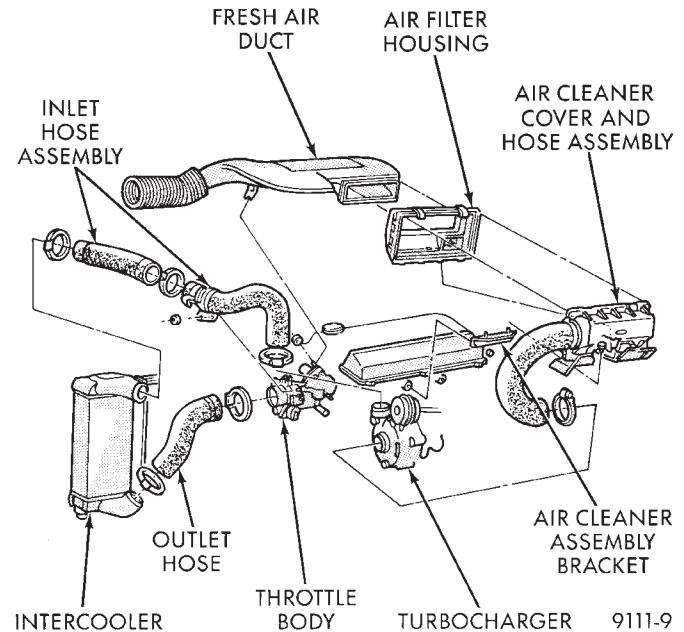

Fig. 1 Air Cleaner and Throttle Body Assembly—Turbo III Engine
- (1) Perform fuel system pressure release procedure **before attempting any repairs.**
- (2) Disconnect negative battery cable. Drain cooling system. Refer to Cooling System, Group 7.
- (3) Remove fresh air duct from air filter housing. Remove inlet hose from the intercooler (Fig. 1).